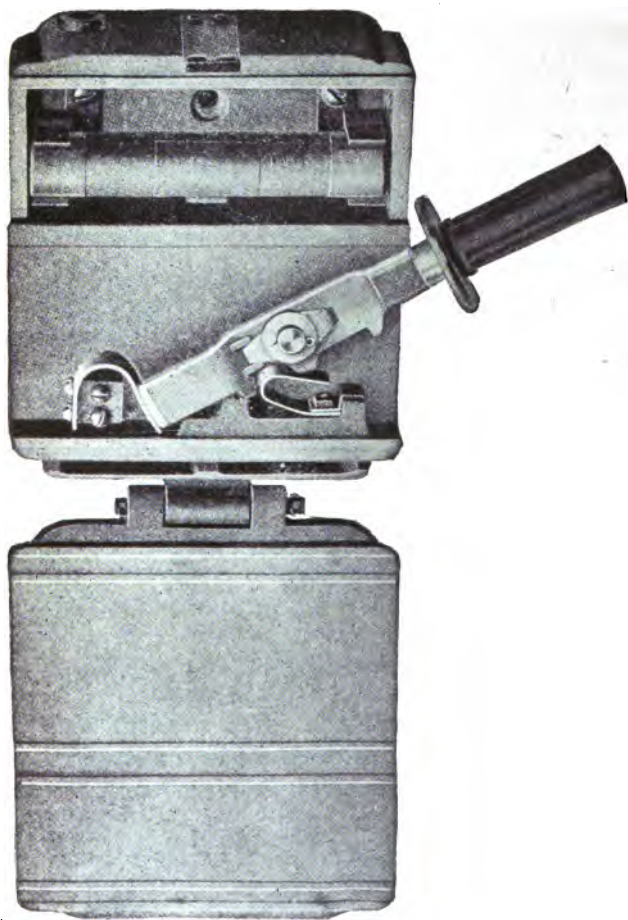

Fig. 503. Master Controller Switch; Pump Switch; also Main Sander Switch on Locomotive.
21. THE MASTER CONTROLLER SWITCH (Fig. 503) is located over the master controller and is used for admitting current to the master controller at the operating end of the train. A suitable enclosed fuse is located within the switch box to protect the master control circuit.
62. MAIN MASTER CONTROLLER SWITCH (Fig. 503) is located on side of passage way in "B" end compartment of cab and is used for admitting current to master controllers and should be closed to operate from